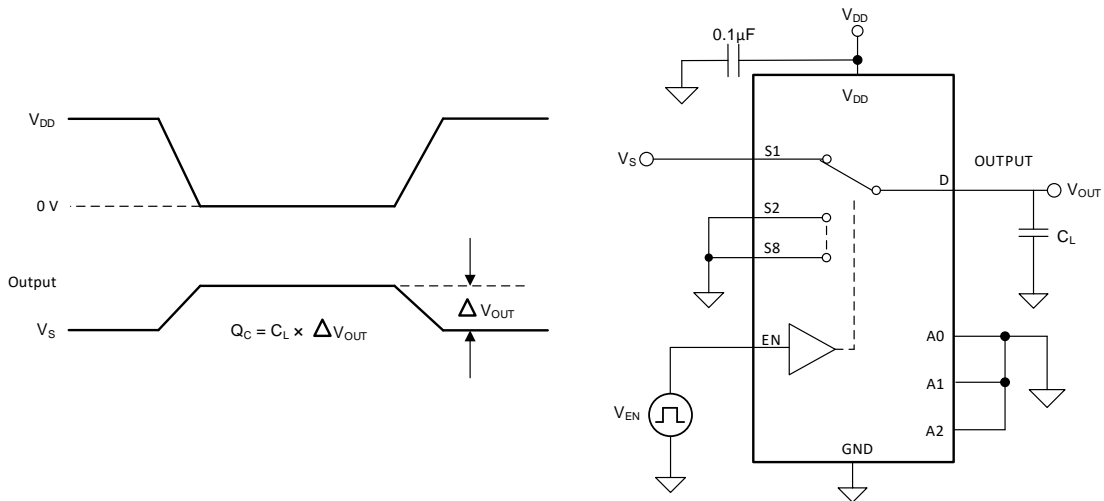

图 13. Charge-Injection Measurement Setup
The TMUX1208 and TMUX1209 have a transmission-gate topology. Any mismatch in capacitance between the NMOS and PMOS transistors results in a charge injected into the drain or source during the falling or rising edge of the gate signal. The amount of charge injected into the source or drain of the device is known as charge injection, and is denoted by the symbol Q_C . 图 13 shows the setup used to measure charge injection from source (Sx) to drain (D).